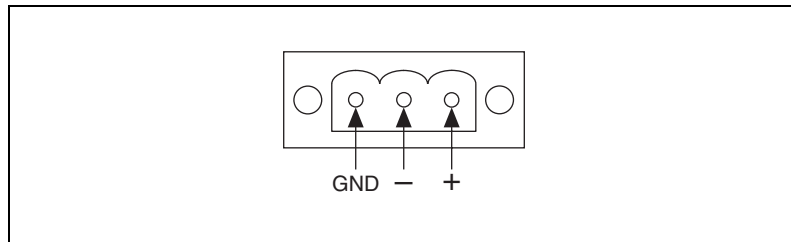

Figure 2-2. Power Receptor and Pin Assignment
3. Connect the power connector to the power receptor on the TPC-2106/2106T. The power receptor pin assignment is shown in Figure 2-2.